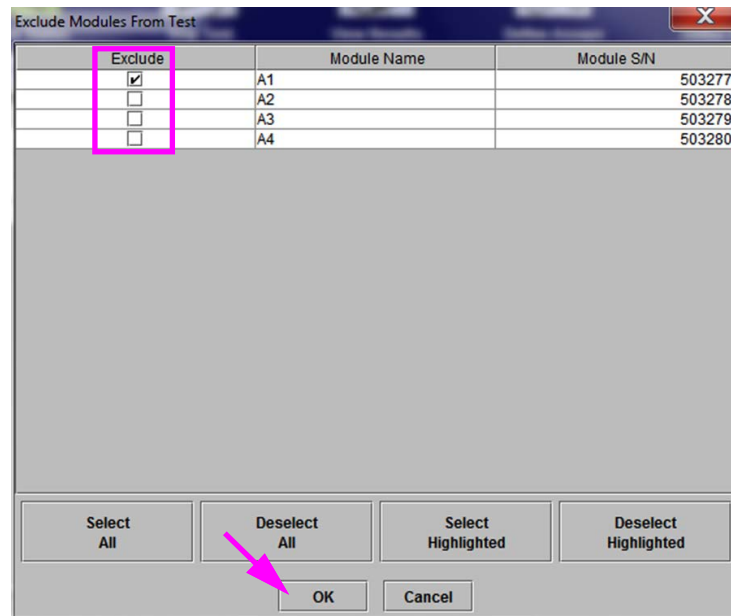

Figure 9-37. Exclude Modules From Test Dialog Box
2. Click on **Maintenance** on the menu bar and select **Exclude Modules From Test**. The Exclude Modules From Test dialog box appears. See Figure 9-37.
4. Press the **OK** button to save changes to the Exclude Modules From Test dialog box (see Figure 9-37).